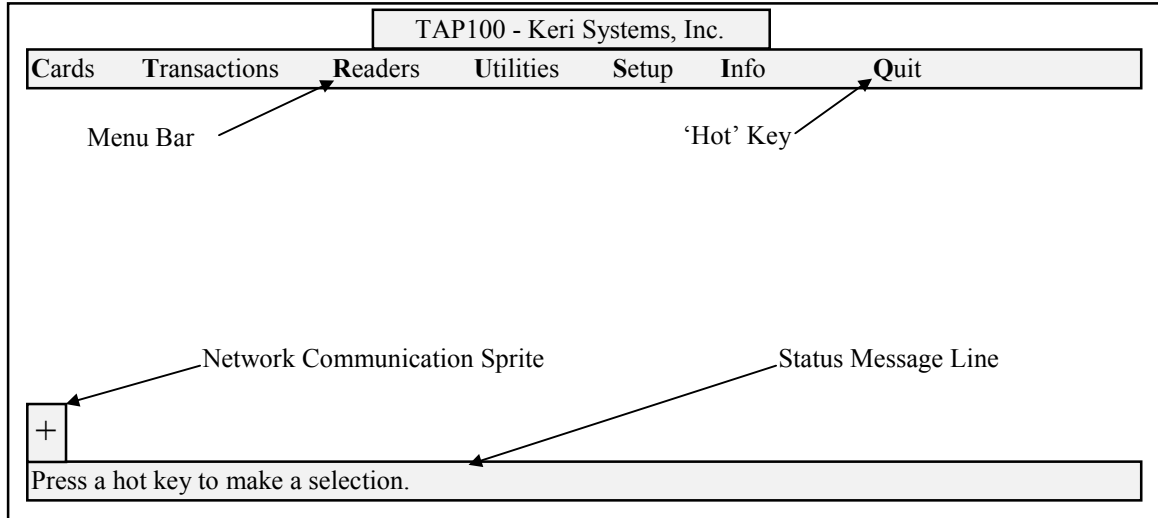

Figure 1 - TAP100 Main Menu Screen
At the top of the main menu is the menu bar (see Figure 1). The menu bar consists of the quit option, the TAP100 software information option, and five pull-down menus. Each pull-down menu controls some facet of the access control system's setup, operation, and maintenance.
- **'Hot' Keys** — For each menu item, one letter will be highlighted in a contrasting color (see Figure 1). These are called "hot" keys and are used as short-cuts to the desired menu item. By pressing the letter on the PC's keyboard corresponding to the highlighted 'hot' key, that menu item is selected.
At the bottom of the menu screen is a status message line (see Figure 1). The status message line displays information about the command in progress. When working with complex commands, don't neglect the status message line. It can assist you in tracking where you are in the command or prompt you for the type of information to be entered.
Whenever an operation requires communication with networked control units a small, rotating sprite appears in the lower left-hand corner of the main menu screen (see Figure 1). This sprite continues rotating until communication has completed and control has been returned to the main menu. When communication is being established, the sprite is white on a blue background. When data is being transferred, the sprite is white on a green background.